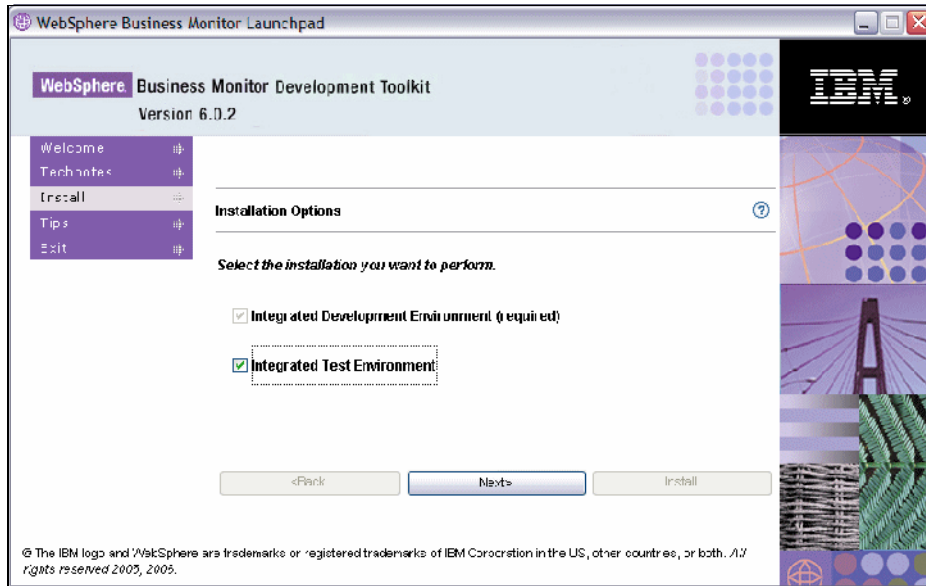

Figure A-11 Monitor Development Toolkit: Installation options
- ▶ In the installation options window, select *Integrated Test Environment* and then click *Next* (Figure A-11).